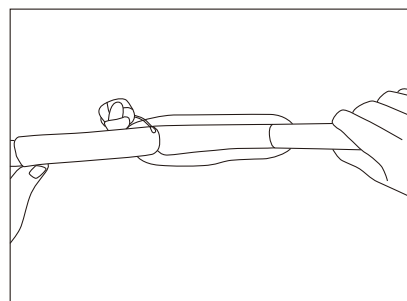

FIG 4
5. Make sure to position the knuckle end of the QWIKrope® LINK Soft Shackle in the trailing end closest to the trailing ropes eye (FIG 4).